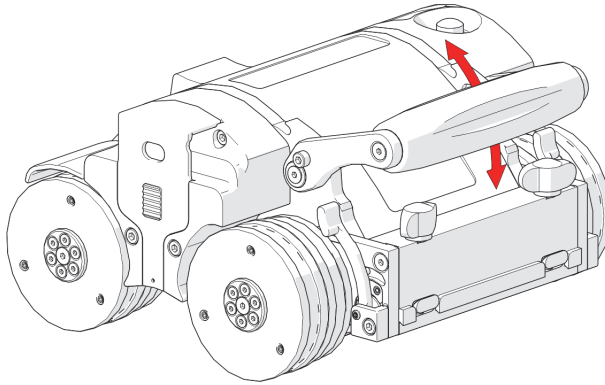

Figure 2-15 Pivot handle as desired
2. Pivot the handle as required (see Figure 2-15 on page 57).